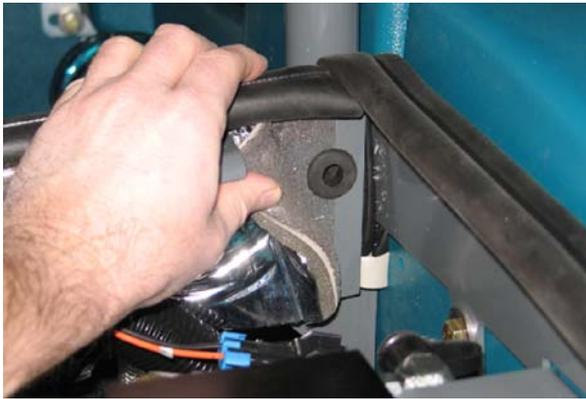
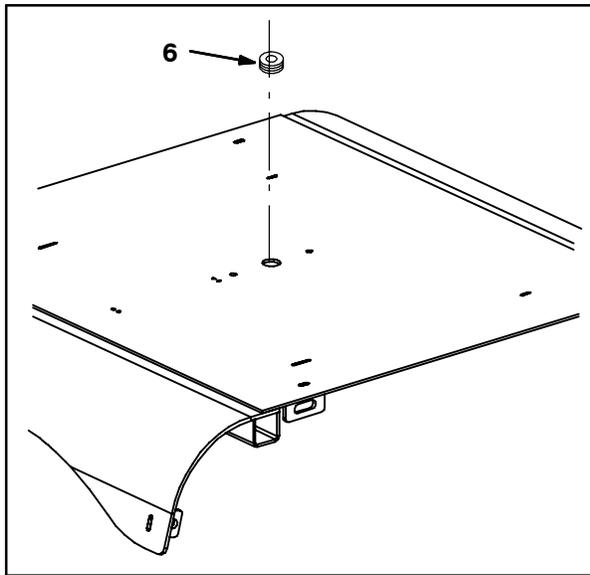

**FIG. 1**
**FIG. 2**
1. Pull the insulation away from the operator compartment panel (Fig. 1.) and drill a 13/16" hole into the panel (Fig. 2). If there is already a hole in the panel, remove the plug from the hole.